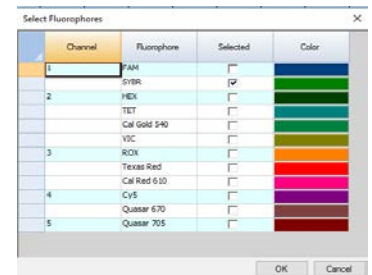

Figure 8. Select Fluorophore Menu
4.11. Select Fluorophores: indicate which to use in the run (Fig.8)